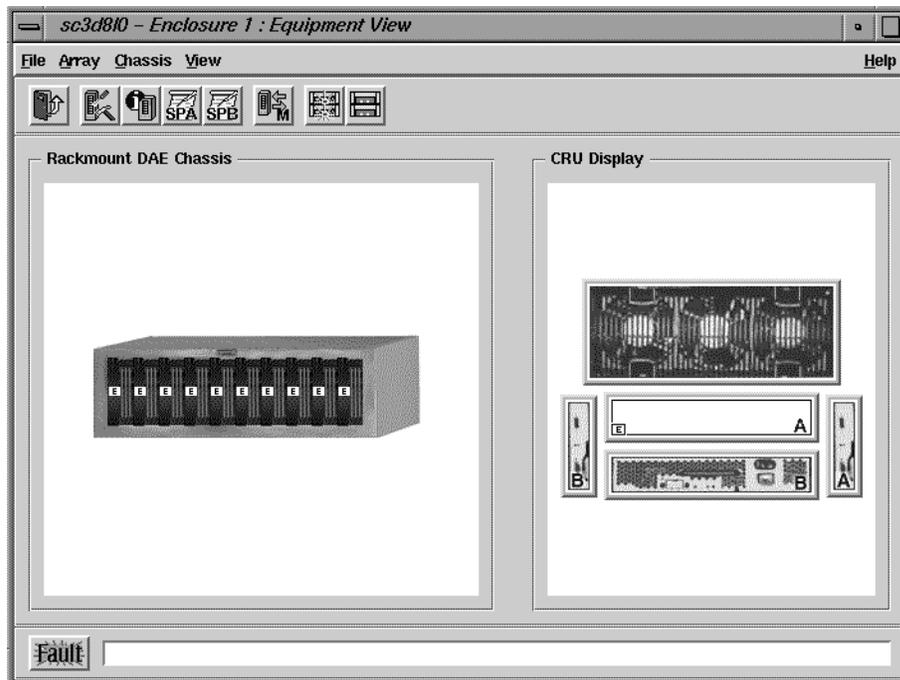

Figure 5-5 Equipment View Window With Faulted Power Supply
4. In the Equipment View window for each enclosure, look for amber icons. Figure 5-5 shows an example.